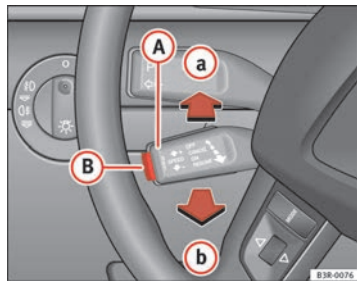

Fig. 141 Controls for the cruise control system
- Press the lever **(A)** ⇒ fig. 141 to position **(a)** (click stop not engaged).